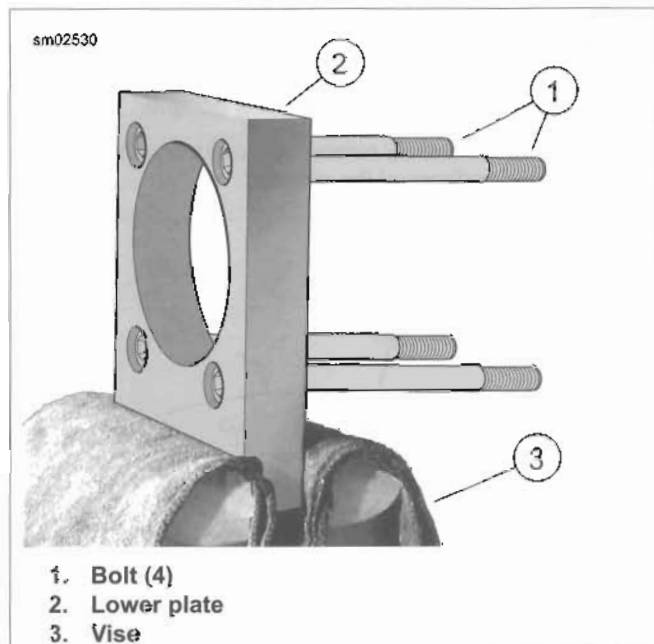
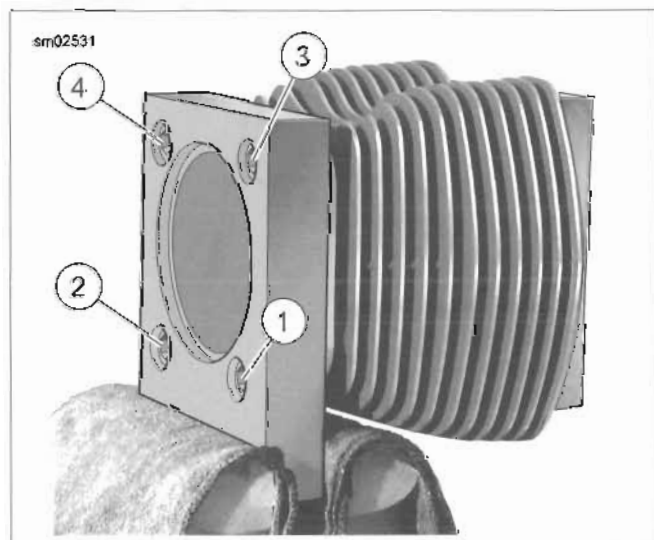

Figure 3-58. Attaching Cylinder Torque Plates
Figure 3-59. Cylinder Torque Plate Bolt Sequence
- b. See Figure 3-58. Clamp the stepped side of the lower plate in a vise with soft jaws.
- c. Lightly oil threads and shoulders of four bolts (1) with clean engine oil and slide through holes of lower plate (2).
- e. Place a used head gasket on cylinder and install upper plate with blind holes aligned with dowel pins in cylinder. Secure with bolts (1).
- f. See Figure 3-59. Tighten the bolts to 120-144 in-lbs (13.6-16.3 Nm) in the sequence shown.